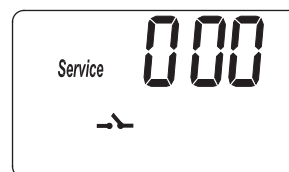
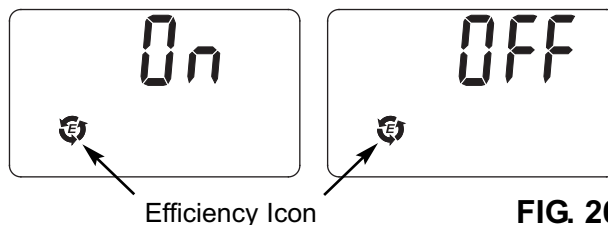

FIG. 25
FIG. 26
1. Press and hold the PROGRAM button until the screen in Figure 25 is displayed. Once in this display, press the PROGRAM button once and one of the two displays in Figure 26 is shown.